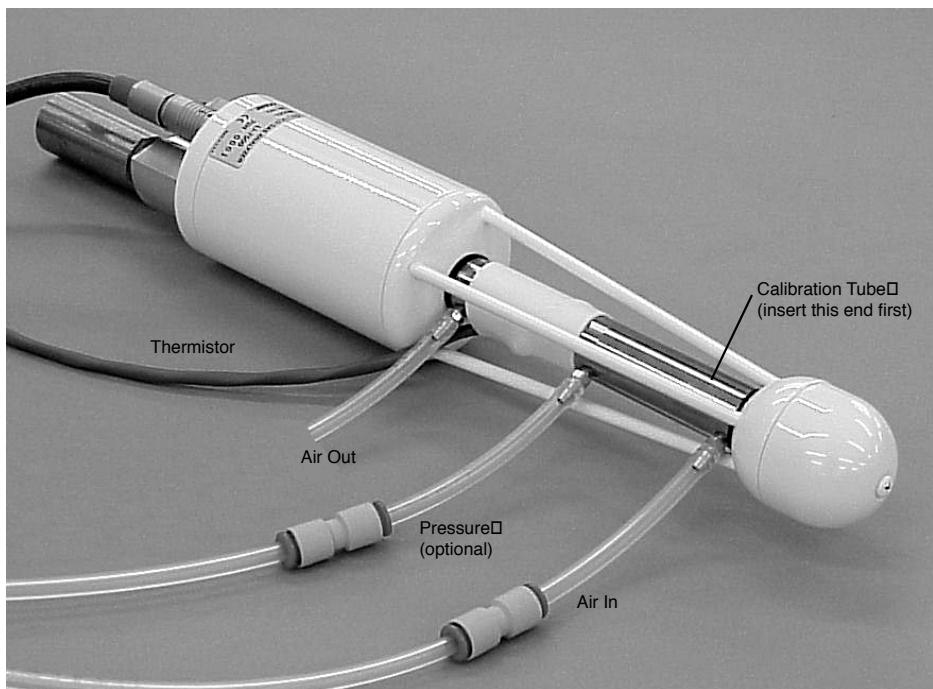

Figure 4-4. Flow calibration gas at the Air In port shown.
2. Place the calibration tube into the sensor head as shown in Figure 4-4 and connect the temperature sensor cable to the LI-7500 control box.
4. Flow CO₂-free air through the calibration fixture at a rate of about 0.5 to 1.0 LPM. Attach the zero gas to the calibration fixture at one of the ports shown in Figure 4-4.